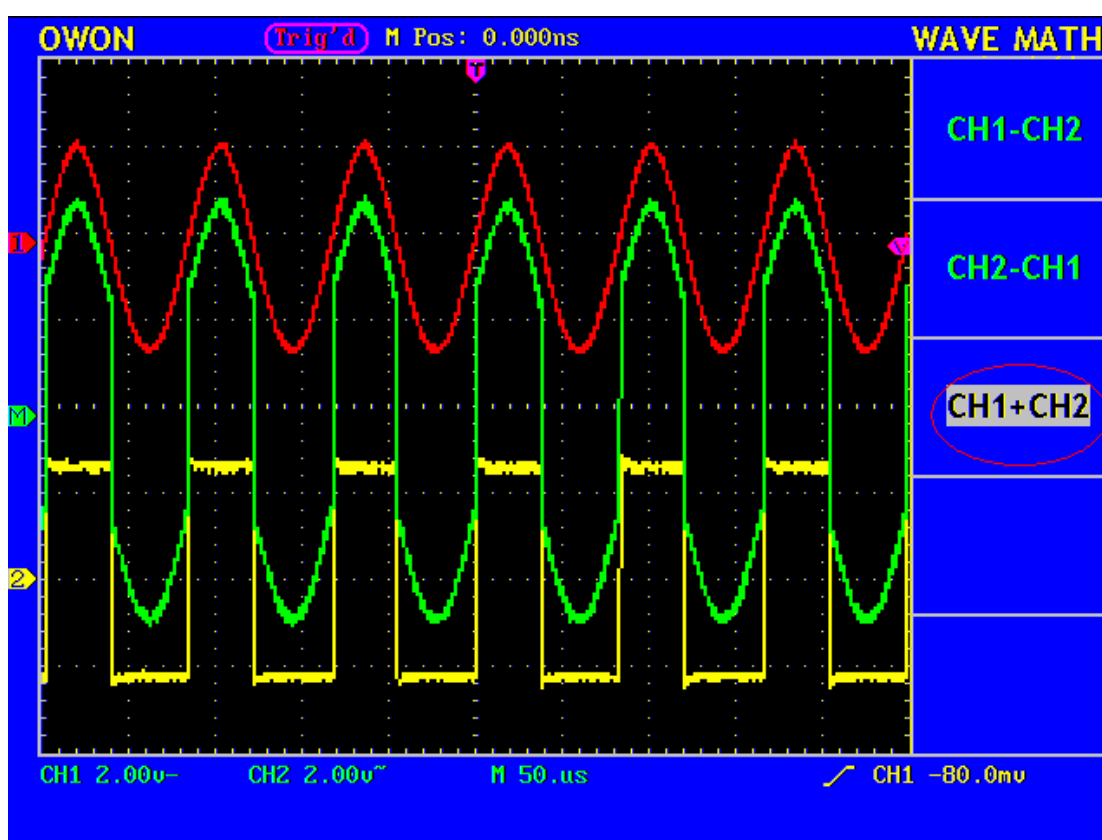

Fig. 20 Wave Form resulted from CH1 +CH2 Mathematical Manipulation
2. Press the **F3** menu selection button and choose **CH1+CH2**. The green calculated wave form M is displayed in the screen; press the **F3** menu selection button again, the wave form M is closed off (see Fig. 20).